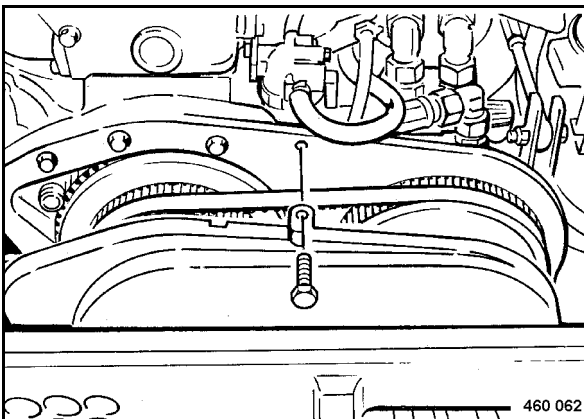

Fig. 118
- Remove the protection hood (Fig. 118).